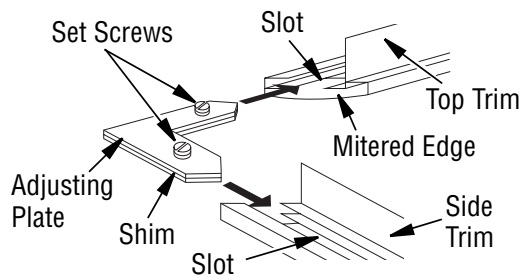

Figure 14 - Assembling Perimeter Trim
3. Align shim under adjusting plate as shown in **Figure 14**.
4. Slide one end of adjusting plate/shim in slot on mitered edge of top trim (see **Figure 14**).
5. Slide other end of adjusting plate/shim in slot on mitered edge of side trim (see **Figure 14**).